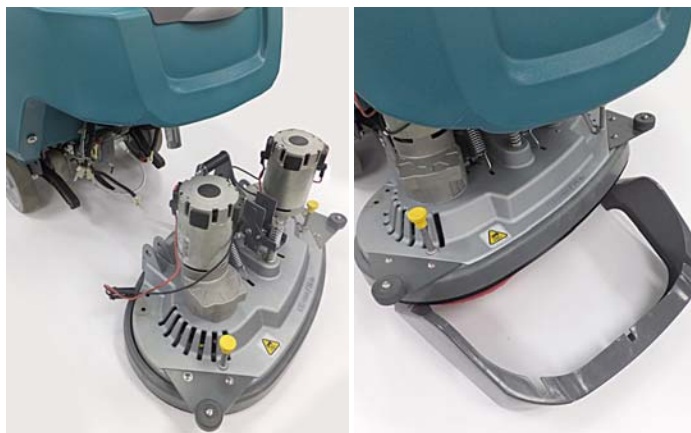

Fig. 35
1. Re-install the scrub head on machine (Figure 35).